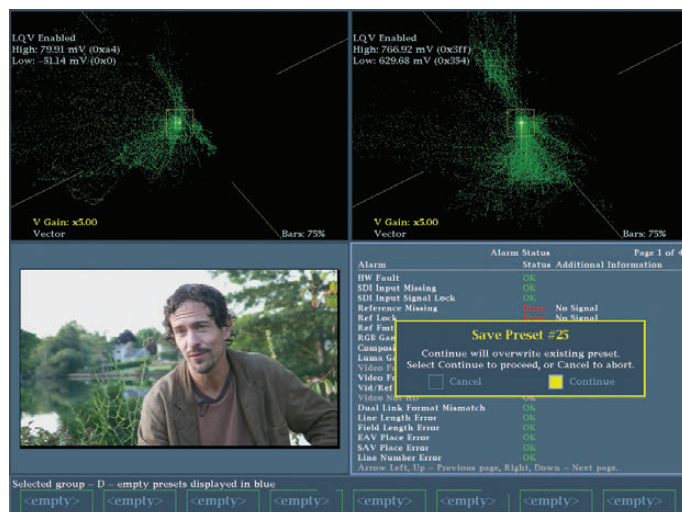

Figure 2-25. This preset is being saved to bank D1. You can save to any empty or unwanted bank of presets.
3. A dialog will appear on screen: “Save Preset #x” Continue will overwrite existing preset. Select Continue to proceed or Cancel to abort. To save your preset, use the right arrow key to highlight the Continue button in yellow and press the SEL button to execute the choice. A dialog will appear confirming that you have saved the preset (Figure 2-25).